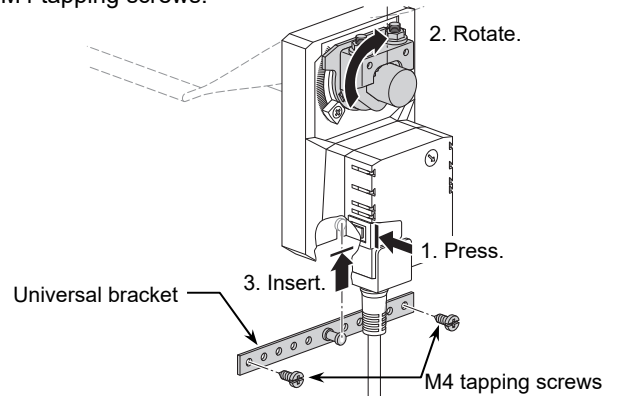

Figure 6. Attaching the universal bracket
- 3) With the gear release button pressed, manually rotate the shaft clamp until it is in the position shown in Fig. 6. Then, insert the universal bracket into the slit of the actuator and fix the bracket onto the damper with the two M4 tapping screws.